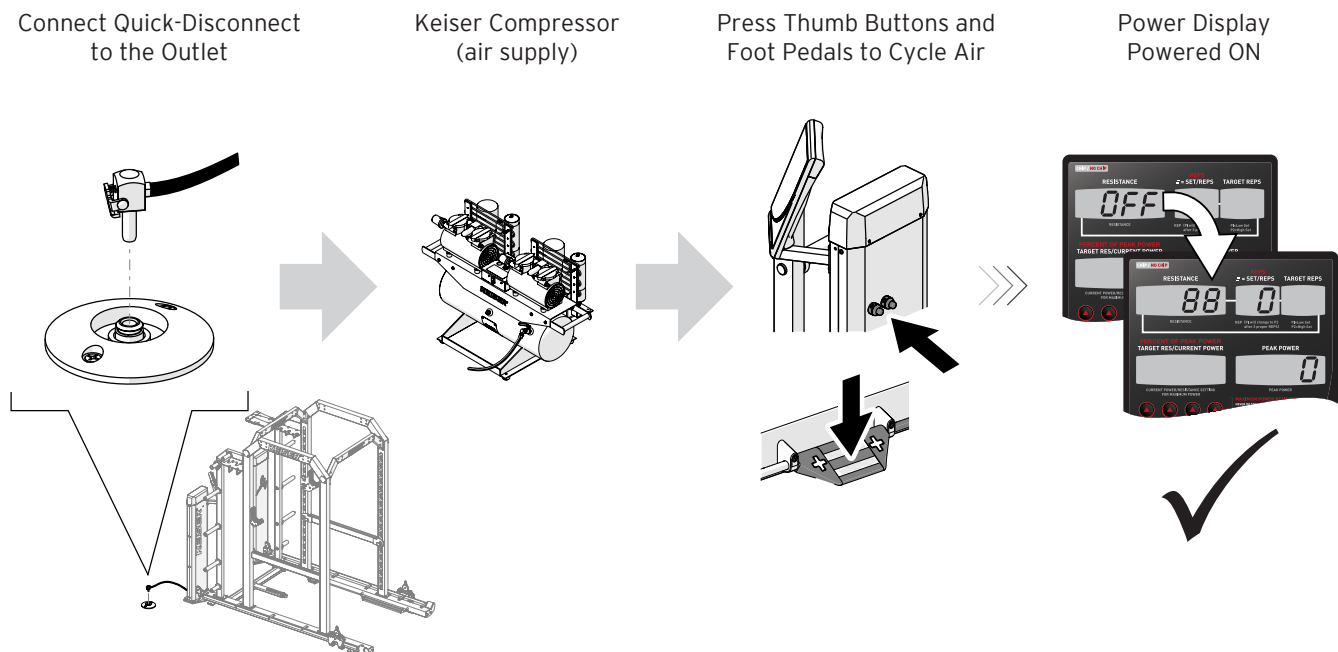

Figure 6. Air System Setup Reference
1. Connect the Quick Disconnect of the Power Rack to the Outlet (see Figure 6).